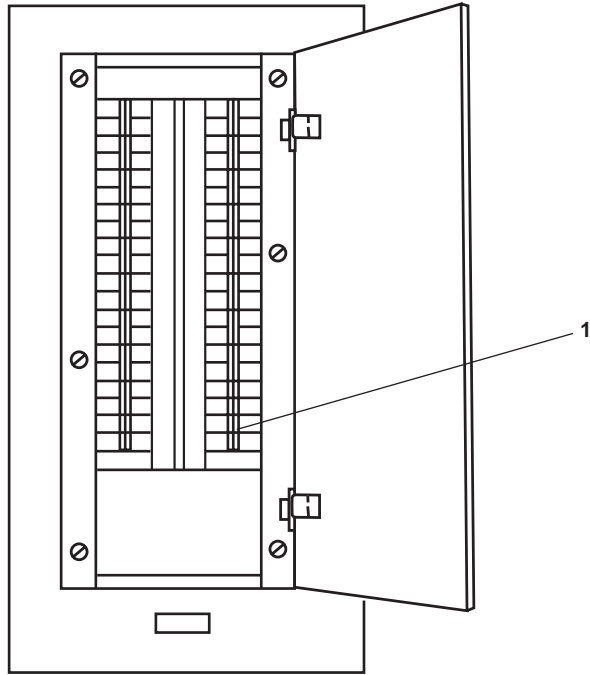

Figure 4. 120V Pilothouse Emergency Distribution Panel
2. At the 120V pilothouse emergency distribution panel, set the INTERCOM SYSTEM. circuit breaker (figure 4, item 1) to ON.